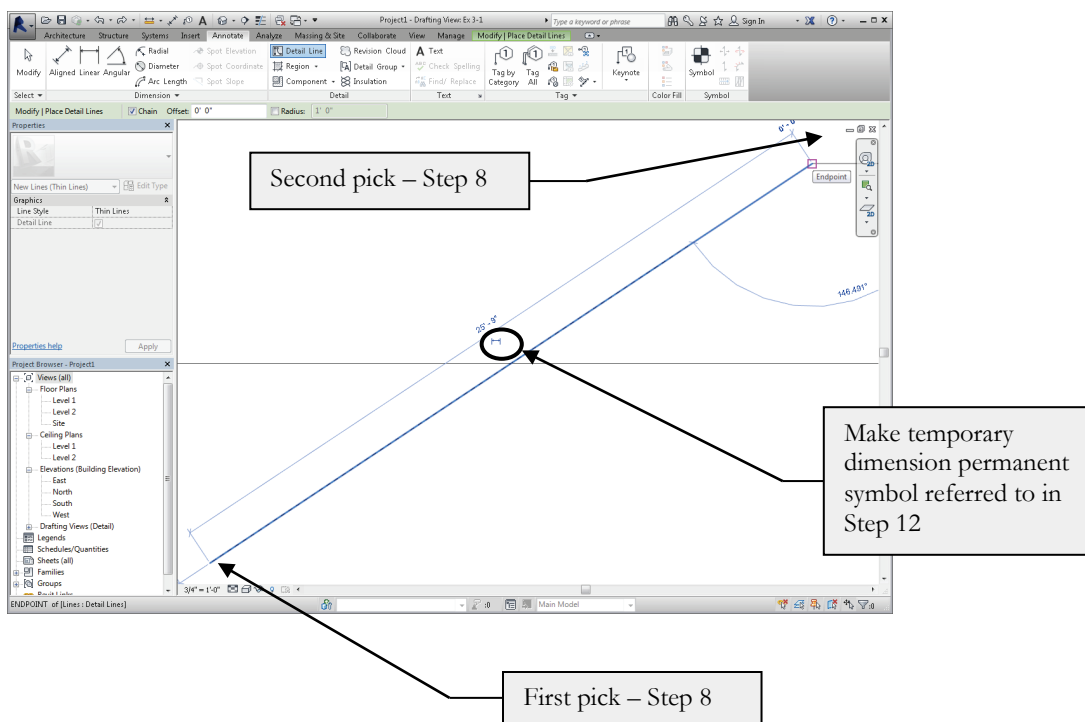

FIGURE 3-1.6 Your first detail line; exact dimensions are not important at this point.
8. **Draw a line** from the lower left corner of the screen to the upper right corner of the screen, by simply clicking two points on the screen within the drawing window (Figure 3-1.6).
12. With the diagonal line still selected, click the “make this temporary dimension permanent” symbol near the dimension (Figure 3-1.6).